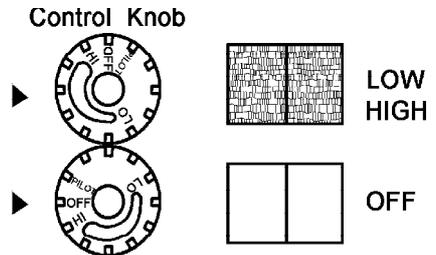

Figure 22 - Burner Patterns
**Note:** If pilot goes out, repeat steps 3 through 7. This heater has a safety interlock system. Wait one(1) minute before lighting pilot again.
8. Turn control knob counter clockwise ↻ to desired seating level. The main burner should light. Set control knob to any heat level between HI and LO. (see Figure 22)